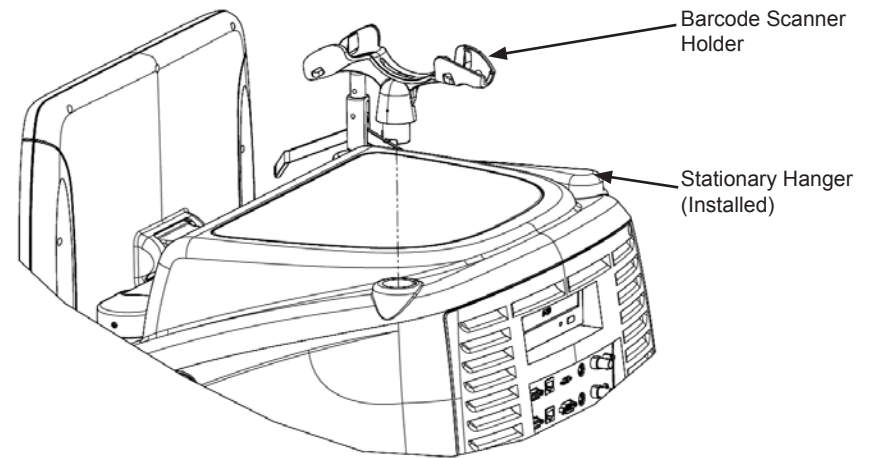

Figure 7-12. Installation of Barcode Scanner Holder and Stationary Hanger
28. Attach the stationary hanger and the barcode reader holder to the top cover (see Figure 7-12).